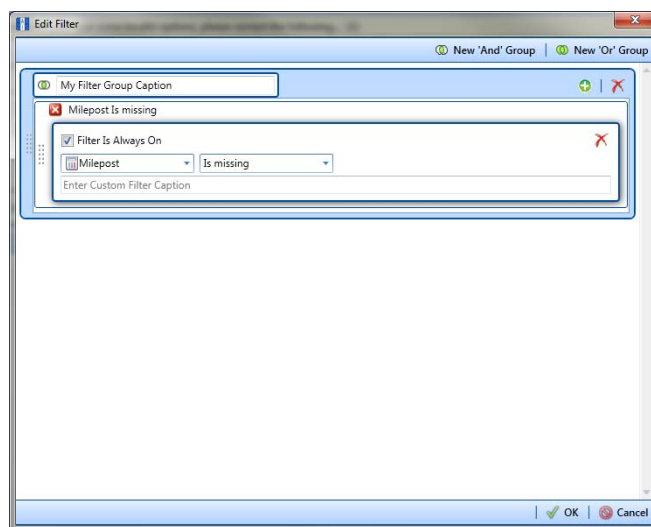

Figure 9-37. New 'And' Filter Group
- Click  **New 'And' Group** to open the filter properties group box (Figure 9-37).